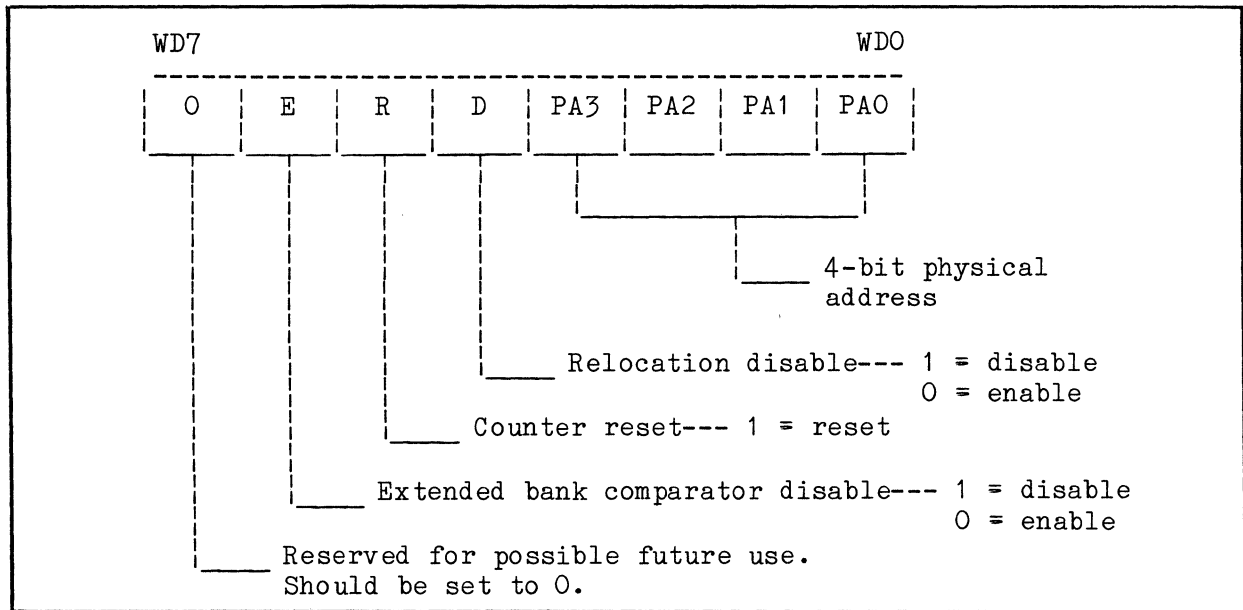

Fig. 9-3. I/O Port Address B8 (Write) Control word format.
Figure 9-3 shows the control word that is written to the relocation logic at I/O port address B8. Data bit WD6 (E) is used to enable/disable the extended bank feature. Data bit WD5 (R) is used to reset the 4-Bit Counter. Data bit WD4 (D) is used to set/reset Disable Latch U7080A. Data bits WD3--WDO (PA3--PA0) are used to consecutively load the Relocation RAM.
The system processor communicates with the Program Memory board through I/O port addresses B8 and B9. I/O port address B8 is used to address the low board (Program Memory addresses 0000--7FFF) and B9 is used to address the high board (Program Memory addresses 8000--FFFF). A decoder on the memory board decodes the I/O port addresses. The output of the decoder and the associated data byte of the I/O port address provides enabling and disabling of the memory relocation and extended bank features. Therefore, these features may also be enabled or disabled by software, in addition to jumpers J5175 and J7171. Figures 9-3 and 9-4 show the control and status bytes for I/O ports B8 and B9.